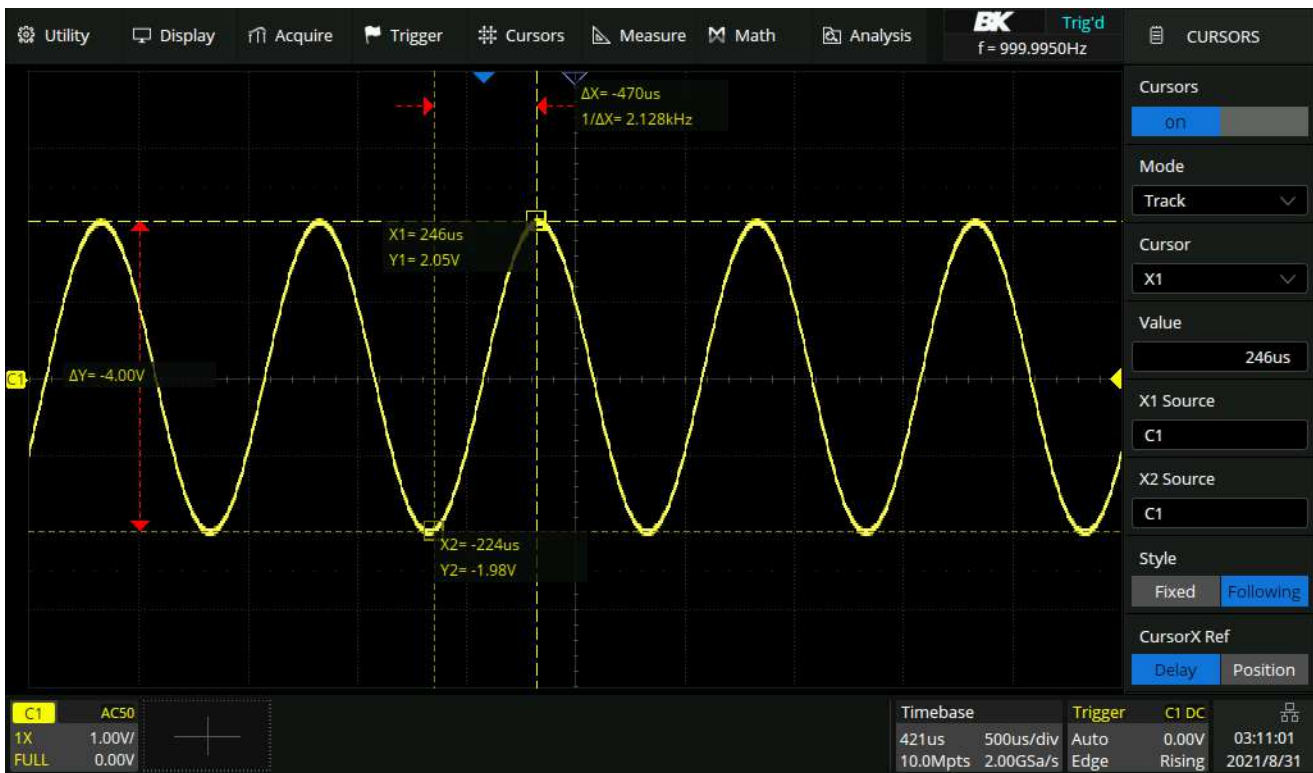

Figure 11.2 Track Cursor Mode
- *Track*: The cursor type is automatically set to **horizontal + vertical**. In this mode, only horizontal cursors are adjustable, while the vertical cursors automatically attach to the cross-point of the cursor and the source waveform. Figure 11.2 demonstrates track mode cursors.